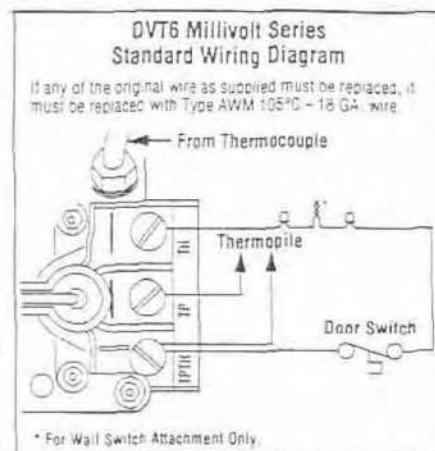
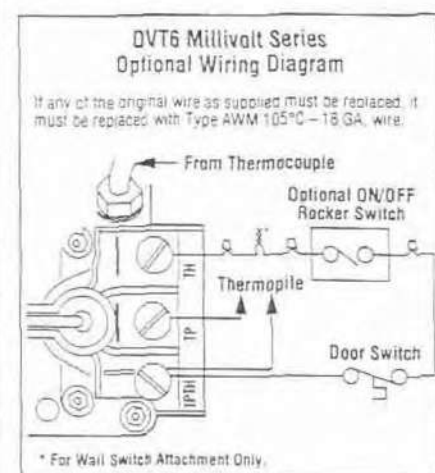

Figure 32
Figure 33
Step 6. Installing the Optional Remote Wall Switch—The standard _DVT6 millivolt system comes from the factory wired as shown in Figure 32. Select a convenient location for the remote wall switch and connect the wiring to the appliance (Figure 33).